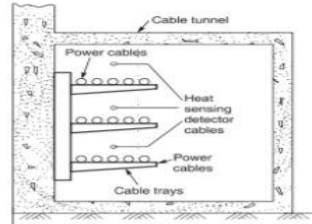

Fig. 13.9. Heat sensitive detector cable.
(3) *Heat Sensitive Cables* are suspended along cable trays, as shown by Fig. 13.9 to detect an increase in surrounding temperature. The detector cable has conducting cores insulated from each other by a heat-sensitive negative temperature coefficient dielectric whose insulation resistance reduces rapidly with increasing temperature. The outer sheath is usually made from a distinctively-coloured-high temperature PVC compound to safely withstand localised fire. One type of cable exhibits a response to temperature according to the percentage of its total length exposed to heat. Typically the temperature rise, above a specified minimum ambient temperature of 40°C, to initiate an alarm condition ranges from 25°C over the entire length of the cable to 75°C over only a one meter length. Thus, it is not normally practicable to extend or shorten standard lengths of cable, since each is matched to its monitoring unit. As a general